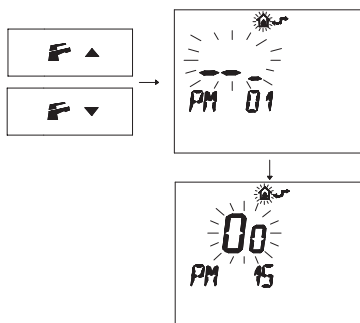

Fig. 8.3
- Press buttons **F** \downarrow or **F** \uparrow to display the "PM15" program that enables the external probe (Fig. 8.3).